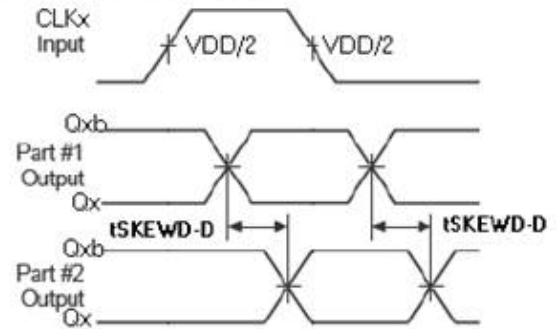

Figure 5. AC Measurement Reference
6. Outputs terminated  $50 \Omega$  to  $V_{CC} - 2.0 \text{ V}$ , see Figure 4. Input levels of 0.8 V and 2.4 V unless stated otherwise. Measured from Input Midpoint ( $V_{DD}/2$ ) to differential Output crosspoints, see Figure 5.